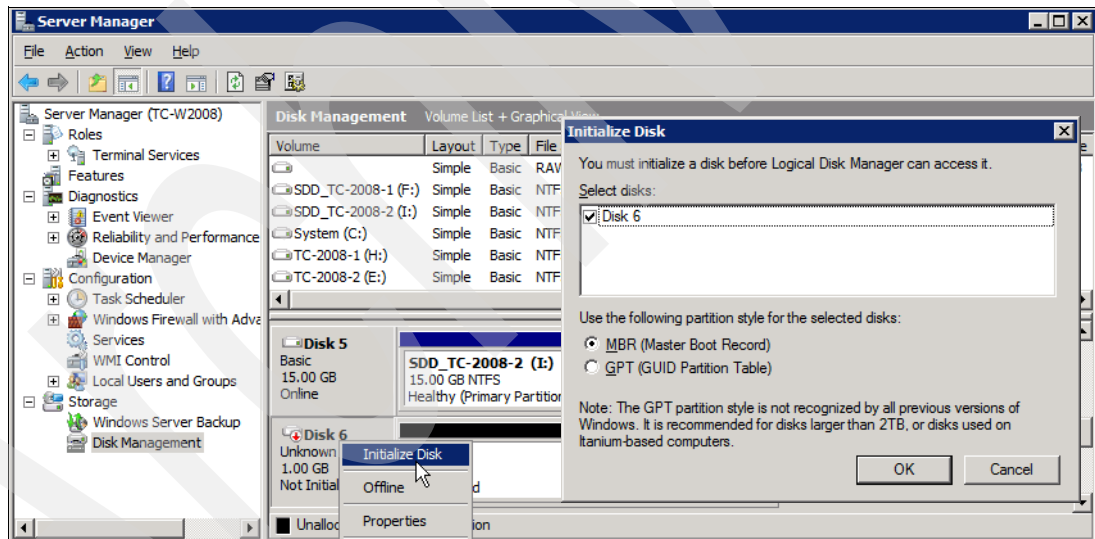

Figure 4-18 Initializing Disks
- After it is in Online state, right-click it again and now select **Initialize**, as shown in Figure 4-18.